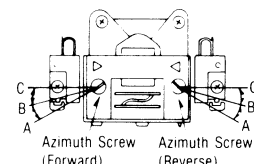
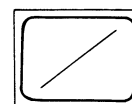

Fig. 6
Fig. 9
- In the forward playback mode, playback the 8kHz signal from the test tape (QZZCFM). Adjust the azimuth screw (Forward) shown in fig. 6 for maximum output L-CH and R-CH levels. When the output levels of L-CH and R-CH are not at maximum at the same point adjust as follows.
- Turn the azimuth screw (Forward) shown in fig. 6 to find angles A and C (points where peak output levels for left and right channels are obtained). Then, locate angle B between angles A and C, i.e., point where L-CH and R-CH outputs are balanced. (Refer to figs. 6 and 7.)
- In the forward playback mode, playback the 8kHz signal from the test tape (QZZCFM). Adjust the azimuth screw (Forward) shown in fig. 6 so that pointers of the two VTVMs swing to maximum and a lissajous waveform as illustrated in fig. 9 is obtained on the oscilloscope.